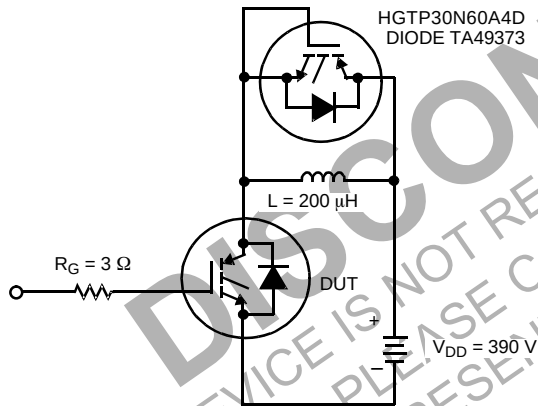

Figure 24. INDUCTIVE SWITCHING TEST CIRCUIT
| Current Turn-On Delay Time              | t d(ON) I  | IGBT and Diode at T J = 25°C,I CE = 30 A,V CE = 390 V,V GE = 15 V,R G = 3 Ω,L = 200 μH,Test Circuit (Figure 24)  | –   | 25   | –    | ns   |
| Current Turn-On Delay Time              | t d(ON) I  | IGBT and Diode at T J = 125°C,I CE = 30 A,V CE = 390 V,V GE = 15 V,R G = 3 Ω,L = 200 μH,Test Circuit (Figure 24) | –   | 24   | –    | ns   |
- Values for two Turn-On loss conditions are shown for the convenience of the circuit designer.  $E_{ON1}$  is the turn-on loss of the IGBT only.  $E_{ON2}$  is the turn-on loss when a typical diode is used in the test circuit and the diode is at the same  $T_J$  as the IGBT. The diode type is specified in Figure 24.